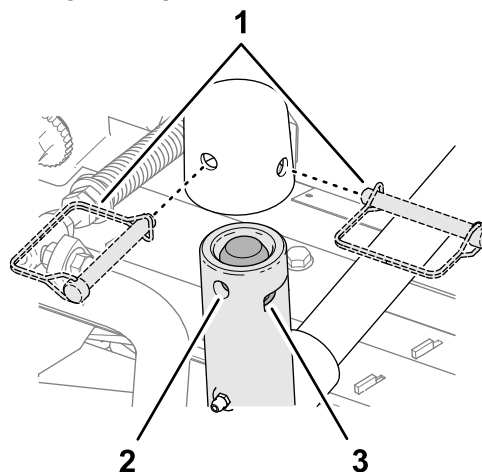

**Figure 23**
1. Slide a cutting unit under the lift arm (Figure 23).